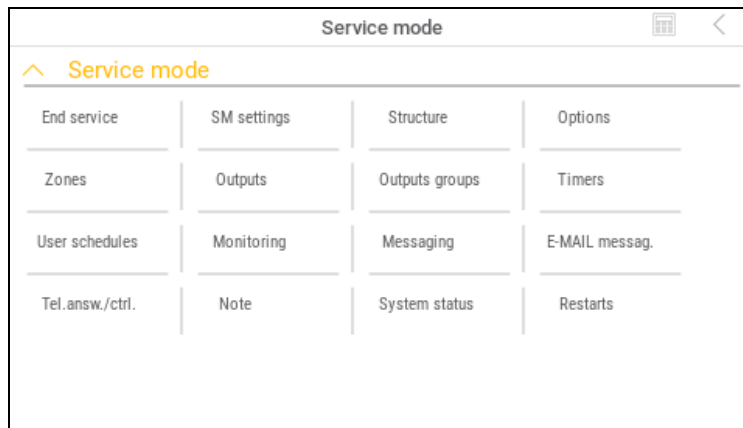

Fig. 6. Service menu.
5. Tap the "Service mode" function. The service menu will be displayed (Fig. 6).